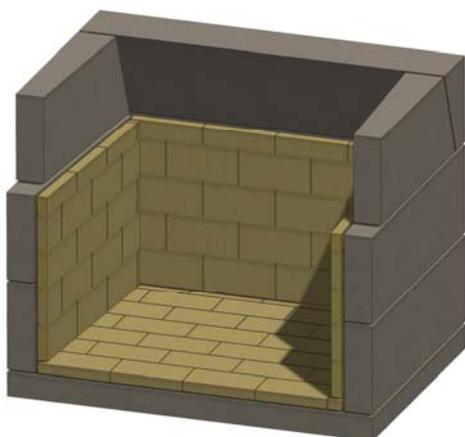

Figure 17. Sidewall Firebrick
J. Install firebrick on the side walls, with the brick laid on edge. The brick lay up on approximately 1/3 of the upper sidewall, and a notch should be cut in the front brick on each side, to allow them to clear the front lintel piece (to be installed later). See Figure 17.